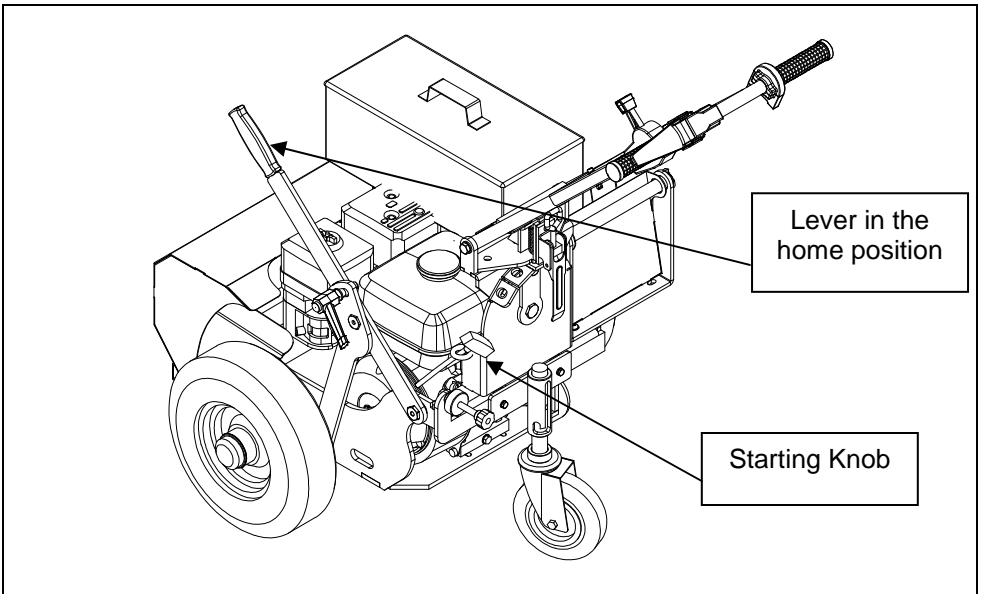
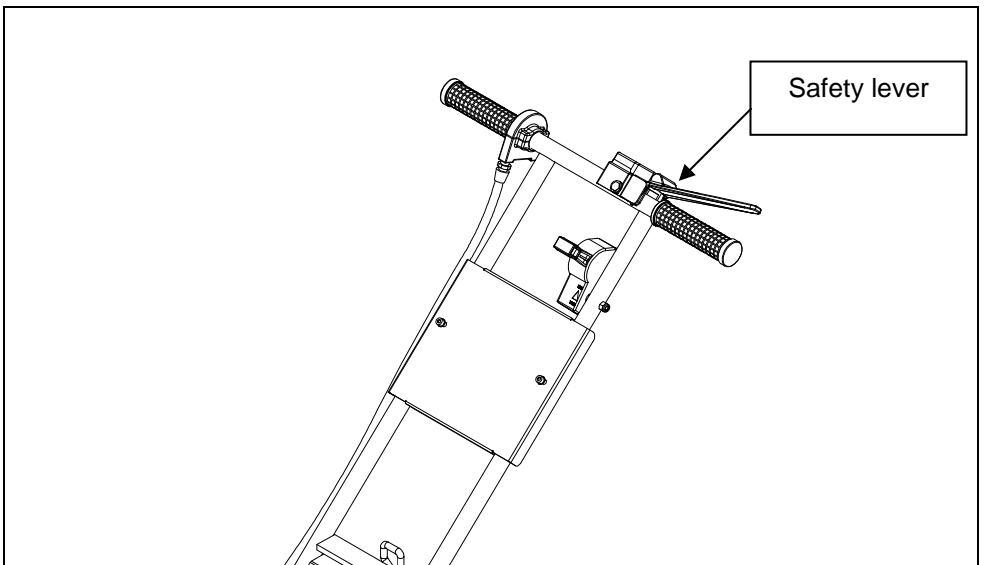

Fig. 8a
Fig. 8c
- Hold the safety lever (Fig. 8c) and grasp the starting knob (fig.8a / 8b) and pull the cord without force until you feel the resistance caused by compression, release the knob and then give a sharp tug to start the engine. The release of safety lever will cause the engine to stop.